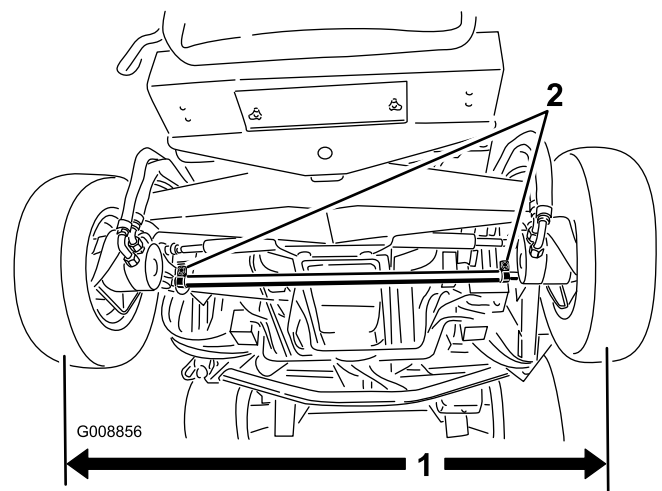

Figure 77
1. Measure the center-to-center distance (at axle height) at the front and rear of the steering tires (Figure 77). The front measurement must be no greater than 0.00-0.12 inch less than the rear measurement.
2. To adjust, loosen the clamps at both ends of the tie rods (Figure 77).